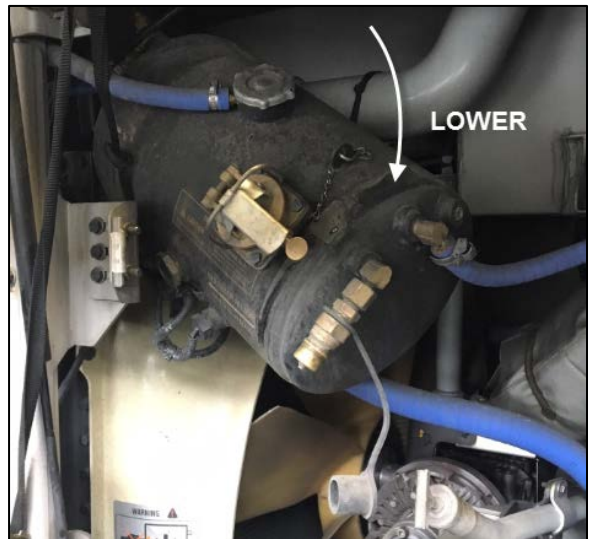

Figure 11
10. To allow support removal, the surge tank must be lowered slightly (right side of the tank) – Make sure that the tank is well supported (Figure 11).